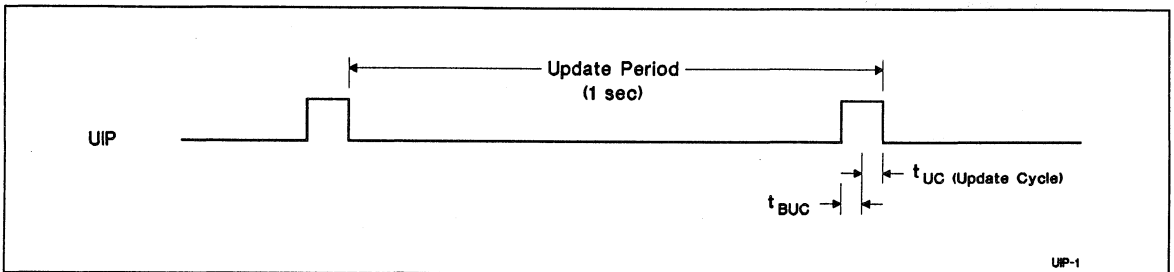

Figure 2. Update Period Timing and UIP
The update period for the bq4287 is one second. The bq4287 updates the contents of the clock and calendar locations during the update cycle at the end of each update period (see Figure 2). The alarm flag bit may also be set during the update cycle.
The update-in-progress bit (UIP) in register A is set  $t_{BUC}$  time before the beginning of an update cycle (see Figure 2). This bit is cleared and the update-complete flag (UF) is set at the end of the update cycle.